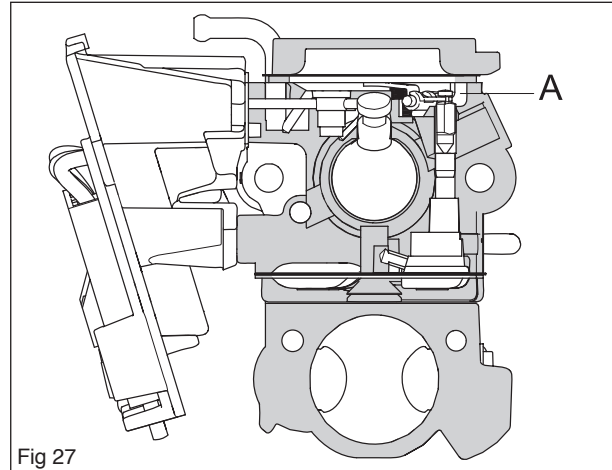

Fig 27
The needles and the fuel's control functions are located in the metering unit (A). Here the correct quantity of fuel is adjusted for the actual speed and power output. See figure 27.